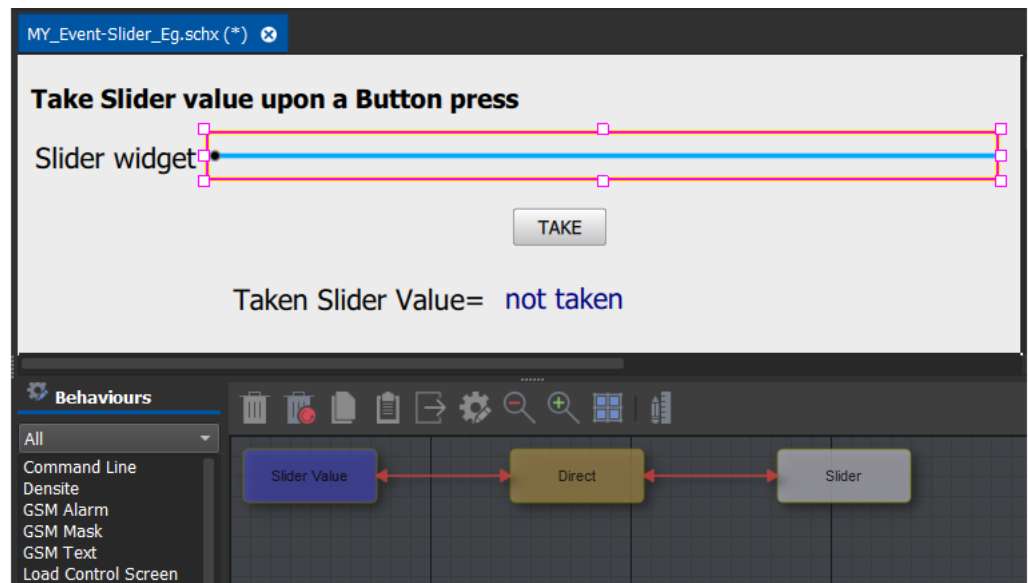

Fig. 7-27: Slider Widget Behaviours and Bindings
- 6 Select the **Slider** widget and add a **Local Value** Behaviour. See Figure 7-27.